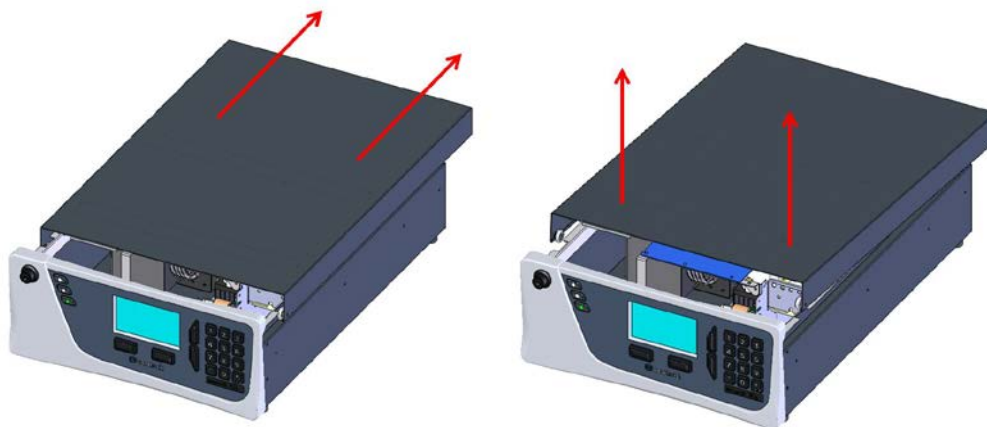

Figure 5 – Opening the Instrument
3. To completely remove; slide the lid backwards until the rollers line up with the gaps in the track and pull the lid upwards to remove from the instrument (refer to Figure 5).